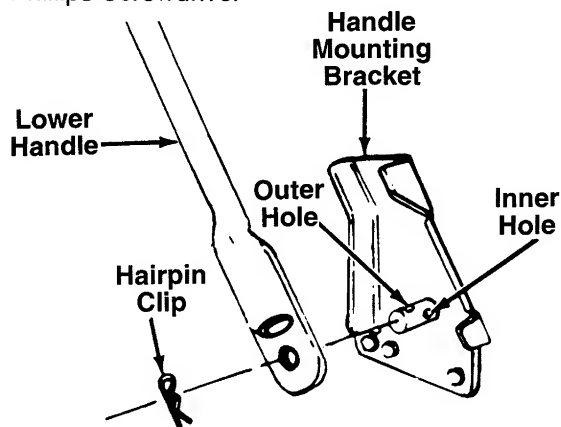

FIGURE 1.
2. Using a pair of pliers, squeeze one leg of the lower handle against the handle mounting bracket. Insert the hairpin clip into the inner hole on the weld pin. See figure 1. Repeat on other side.
**NOTE:** There are two (2) holes in the handle mounting brackets. Place the hairpin clip in the inner hole for operation. Outer hole is for storage.